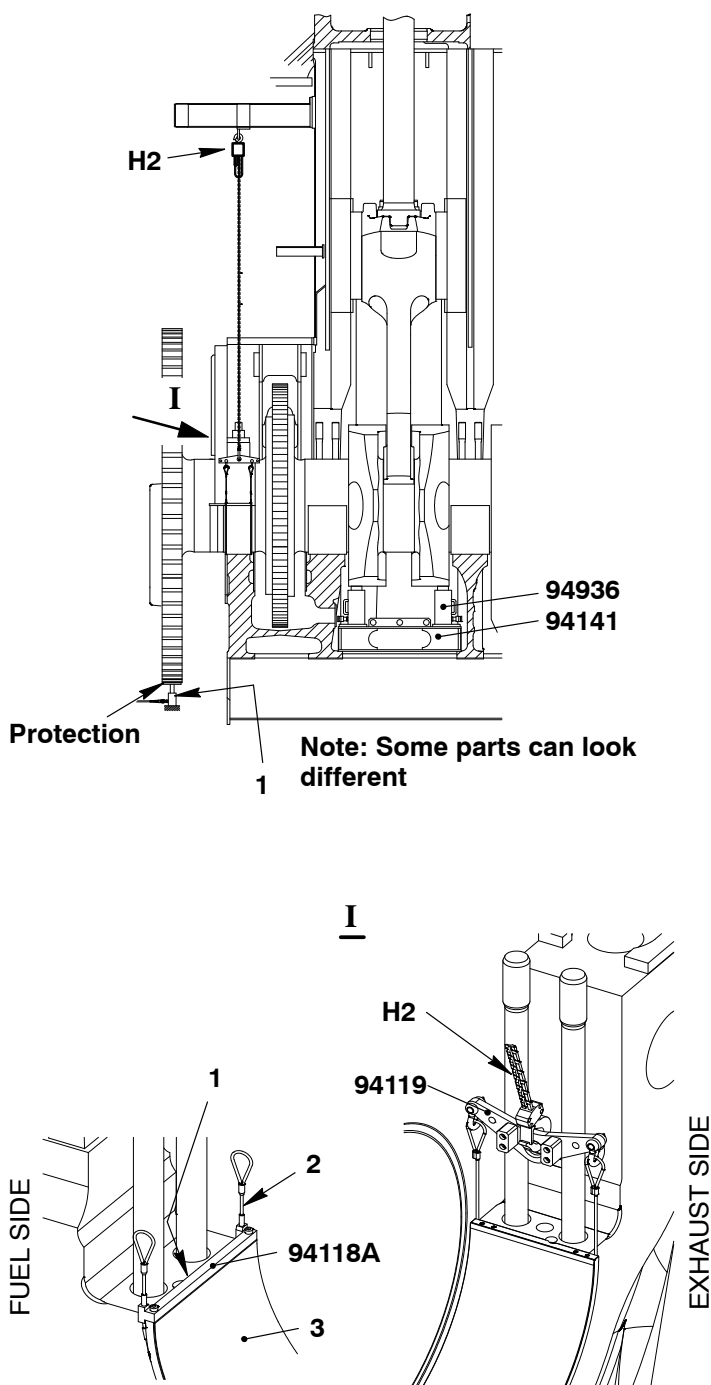

Fig. 14
- 2) Attach the chain block (H2, Fig. 14) to the eye bolt on the platform.
- 3) Remove the Allen screws (1) from the bearing girder.
- 5) Attach the tool (94118A) to the bottom main bearing shell (3).
- 6) Put the ropes (2) along the lateral edges of the main bearing shell (3) to the other side and attach them to the lifting plate (94119) as shown.